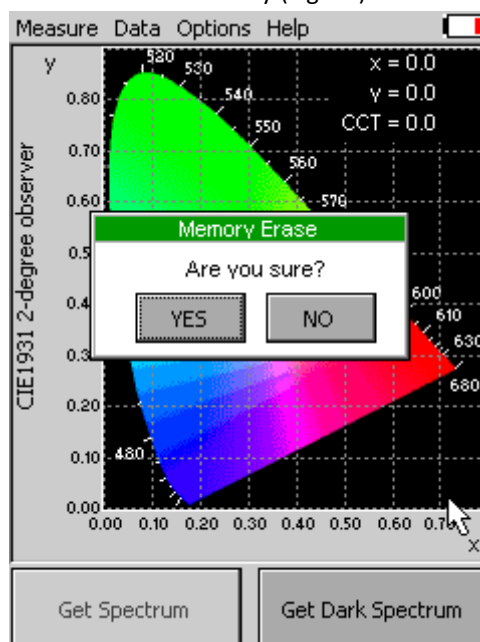

Fig. 10 Memory erase function.
- **Erase** – erase function is used to erase internal data memory (Fig. 10)